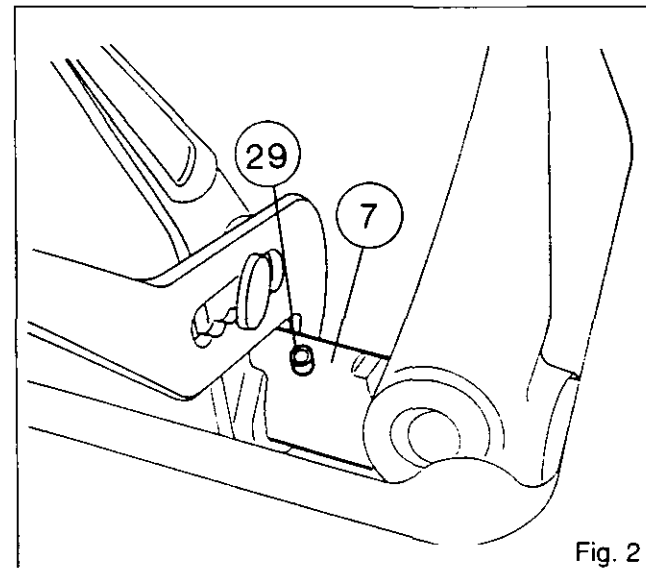
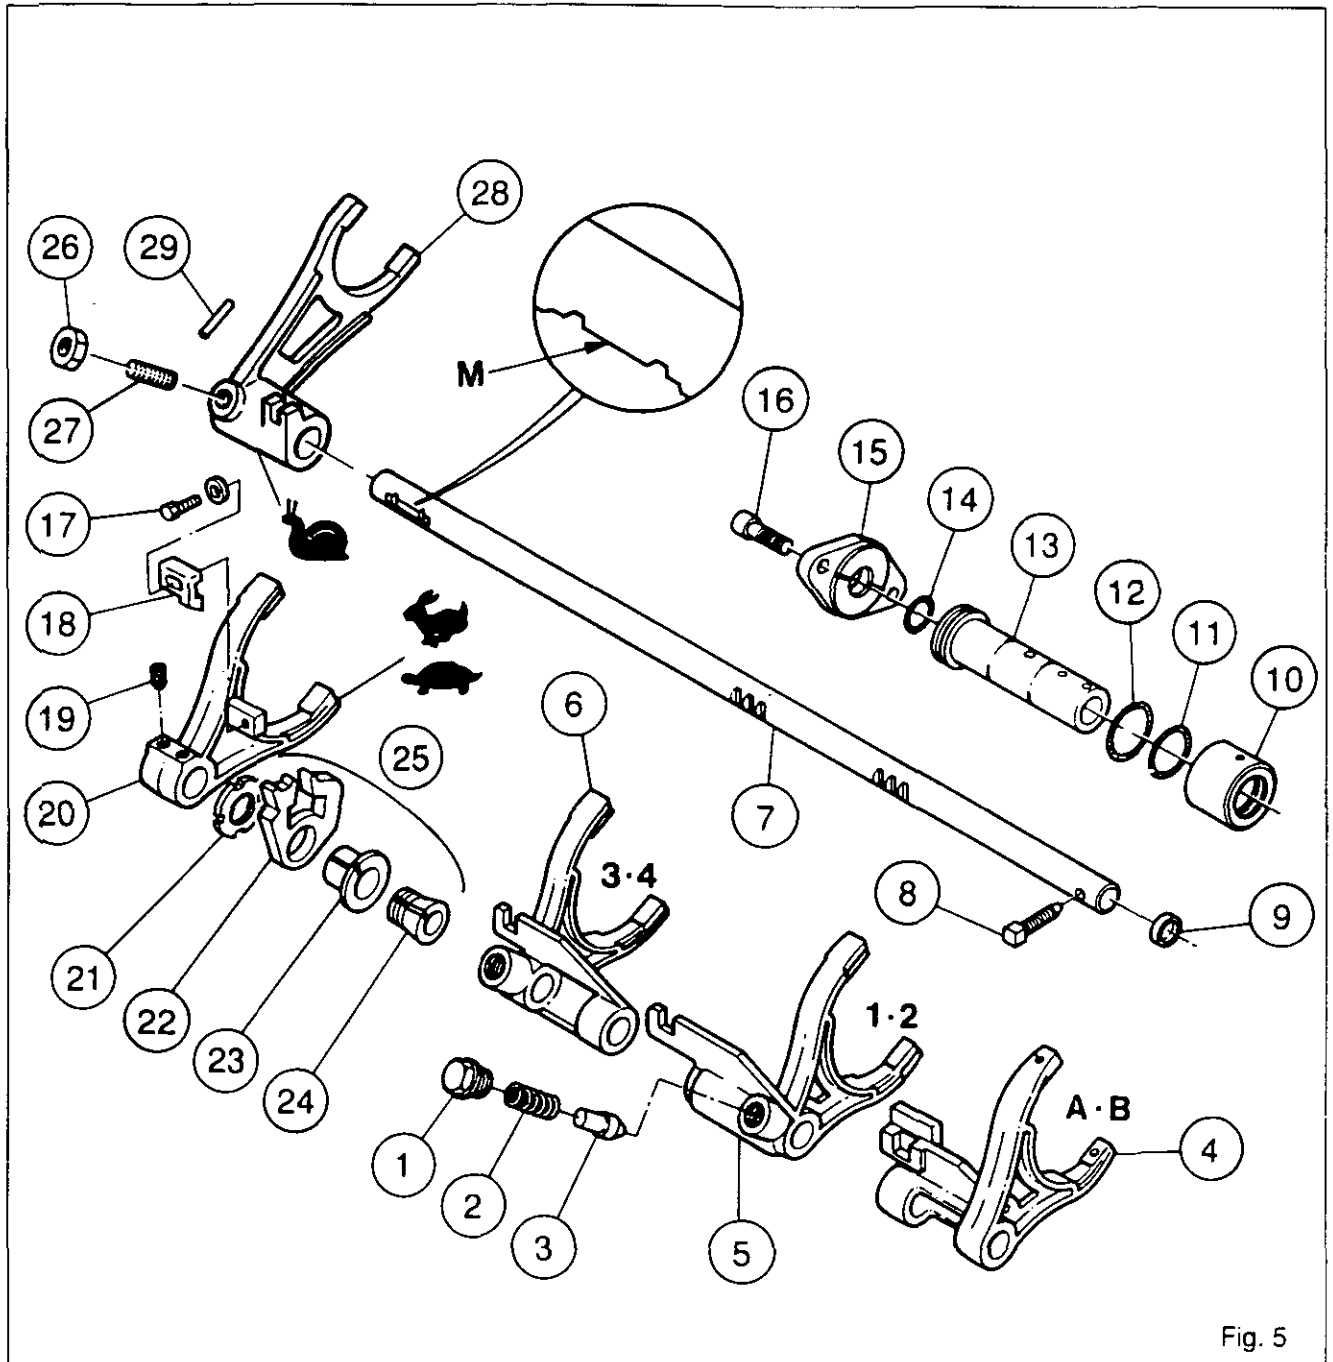

Fig. 2
Fig. 5
5. Unscrew nut (26) and the locking screw (27) on the fork (28) (Fig. 2).
6. Remove the setscrew (8) (Fig. 5)
7. Turn the selector rail (7) and drive out the roll pin (29) (Figs. 2 and 3).
## Key to Figure 5
13. Fit the setscrew (8) temporarily to hold the selector rail in order to remove the fork (28) (Fig. 5)
26. Remove the setscrew (8) (Fig. 5).
27. Press in a new pin (29) and turn the selector rail (7) (Figs. 2 and 3)
28. Clean the setscrew (8), coat it with Loctite 542 and tighten to a torque of 28 - 43 Nm.
29. Locate the fork (28) and the locking screw (27) on flat M of the selector rail (7) (between the two detent notches) (Fig. 5).
Tighten the screw to compress the ball. Slacken the screw a quarter turn. Clean the nut (26) and coat it with Loctite 241, then tighten to a torque of 15 - 20 Nm (Fig. 5).